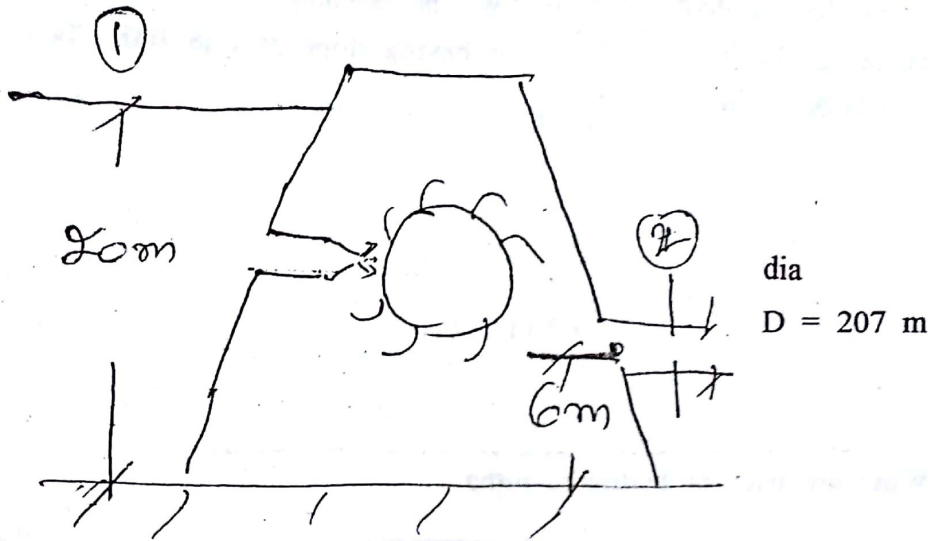

Fig. 2
- 5 The power plant installation is shown in Fig. 2 below. Water passes through turbine and goes downstream. Determine power available to the turbine when the flow rate is $30 \text{ m}^3/\text{s}$.